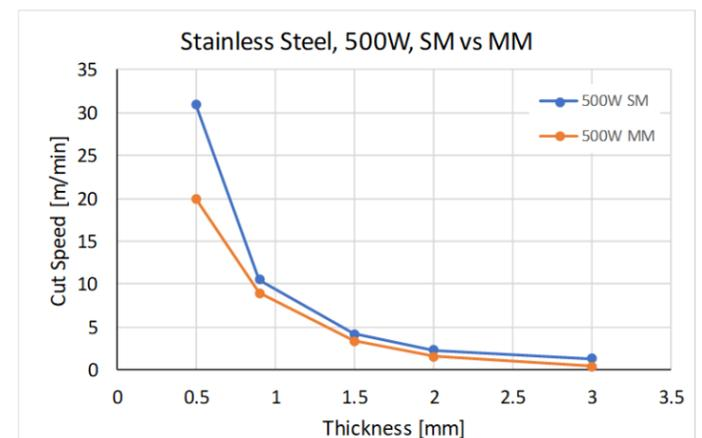

Figure 3: Comparison of 500W stainless steel cutting performance of SM vs MM
At this power level the optimal focal spot sizes are the same for single-mode (SM) and multi-mode (Ø50µm) lasers, both using Ø60µm. A comparison of the cutting performance for stainless steel is shown in **figure 3**, which shows that the performance is similar for both single and multimode (MM) except for thin (<1.0mm) sheets where there is a 50% gain in speed with the SM. If the focal spot for the SM laser is reduced to 30µm the 0.5mm thick cutting speed can be further increased to 40m/min, but there is no improvement for thicker sheets.